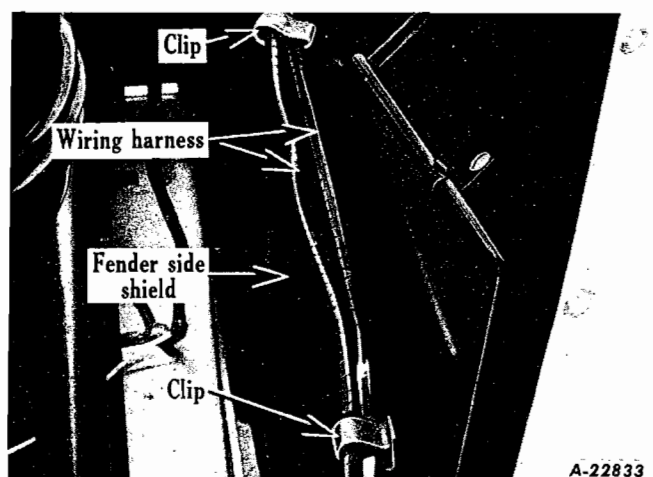

Fig. 65
5. Pull head lamp wiring harness towards the rear through fender splash panel and remove all harnesses from three clips located on fender side shield (Fig. 65).